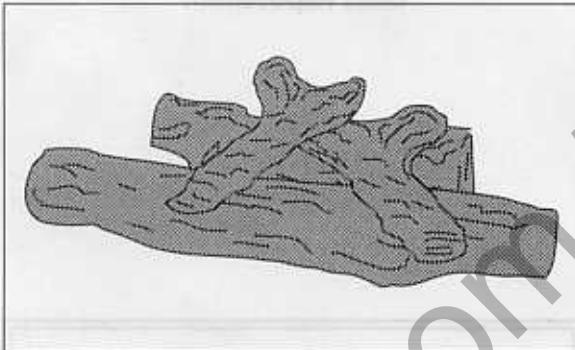
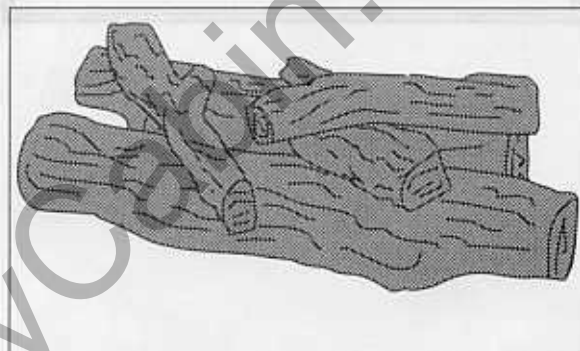
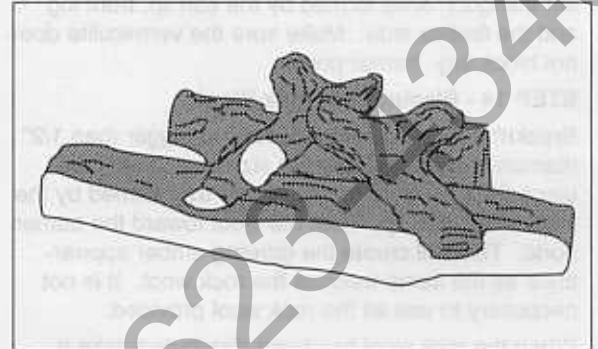
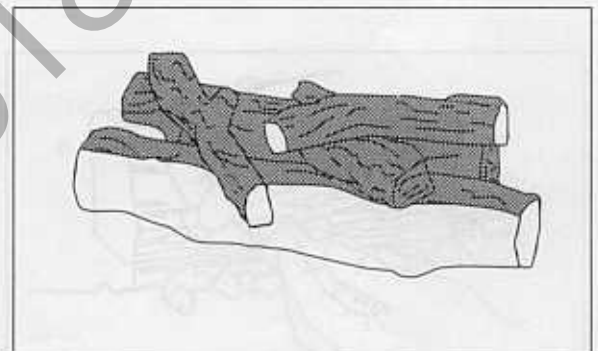

Figure 18A
Figure 18B
Figure 19A
Figure 19B
1. Using sharp scissors or a knife, cut the two (2) elastic straps that secure the logs in position. Remove the straps by pulling them out from underneath the ash lip. Remove the foam packaging from the logs. The whole logs should look similar to those in Figure 18A (for 30" and 33" units) or Figure 18B (for 36" units). The split logs should look similar to those in Figure 19A (for 30" and 33" units) or Figure 19B (for 36" units). If not, contact your Heatilator Representative to properly set up logs.